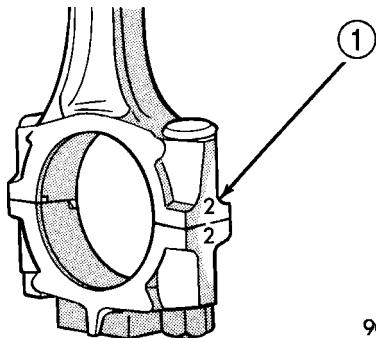

Fig. 56 Identify Connecting Rod to Cylinder
(1) Disconnect negative cable from battery.
(2) Remove the cylinder heads. (Refer to 9 - ENGINE/CYLINDER HEAD - REMOVAL)
(3) Remove the oil pan. (Refer to 9 - ENGINE/LUBRICATION/OIL PAN - REMOVAL)
(4) Remove the top ridge of cylinder bores with a reliable ridge reamer, if necessary, before removing pistons from cylinder block. **Be sure to keep tops of pistons covered during this operation. Pistons and connecting rods must be removed from top of cylinder block. When removing piston and connecting rod assemblies from the engine, rotate crankshaft so that each connecting rod is centered in cylinder bore.**
(5) Inspect connecting rods and connecting rod caps for cylinder identification. Identify them, if necessary (Fig. 56).